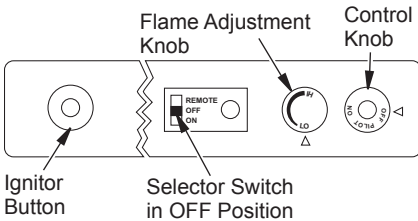

Figure 32 - Control Knob and Ignitor Button Location
- Press in and turn control knob clockwise ↻ to the OFF position (see Figure 32).
- Wait five (5) minutes to clear out any gas. Then smell for gas, including near the floor. If you smell gas, STOP! Follow “B” in the safety information, page 19. If you don’t smell gas, go to the next step.
- Press in and turn control knob counterclockwise ↻ to the PILOT position. Press in control knob for five (5) seconds (see Figure 32).